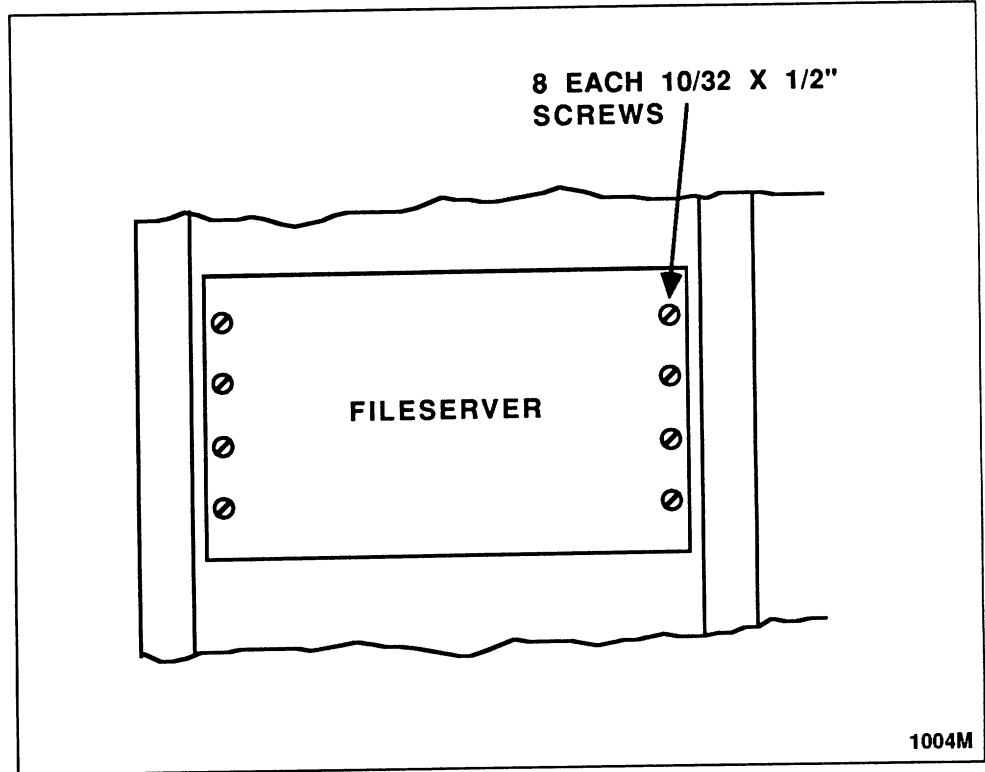

Figure 2-4 *Fileserver Installation*
6. Secure fileserver in rack with eight 10-32 x 1/2 screws (figure 2-4).